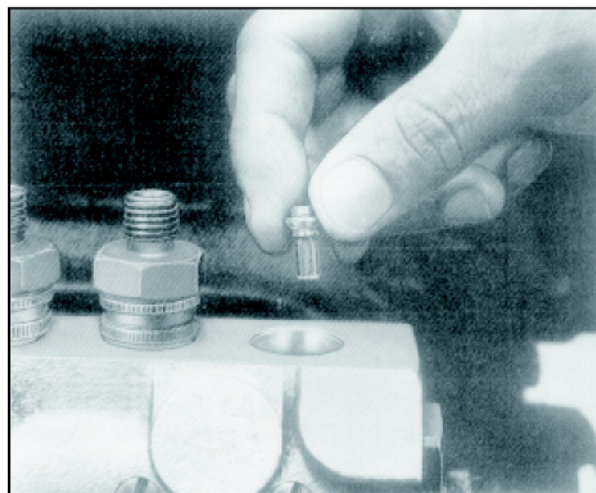

Fig. 6
3. Remove clamps for Nos 1 and 2 valve holders. Unscrew No. 1 delivery valve holder and remove delivery valve spring and peg. Fig. 6.